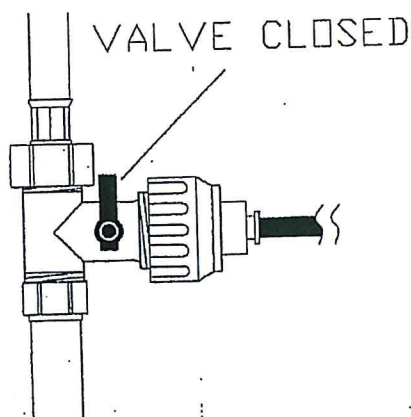

Fig 1.
2. Turn the lever on the isolator (A) to the closed position (fig 1.) Allow the mixertap to run until no water flow through it. Note: for customers with the previous version of the filter system, close the water off by turning the handwheel on the saddle valve.
3. Whilst holding the filter head (B) turn the filter cartridge (C) 90° then pull it away from the filter head (B). Note if the filter (C) is tight a spanner can put on to loosen it.